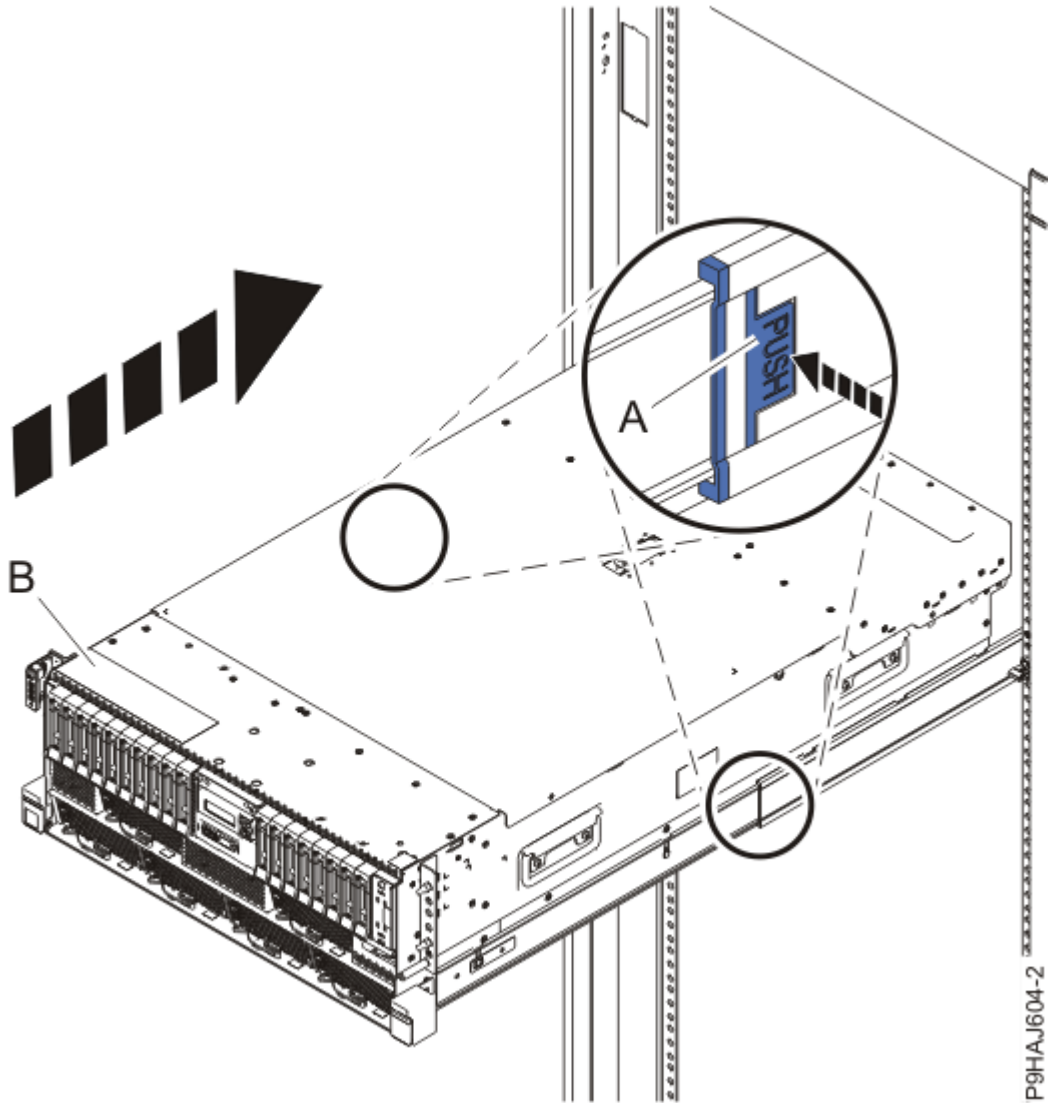

Figure 38. Placing the system into the operating position
5. For a rack-mounted system, unlock the blue rail safety latches (**A**) as shown in Figure 38 on page 41 by pushing them inward.